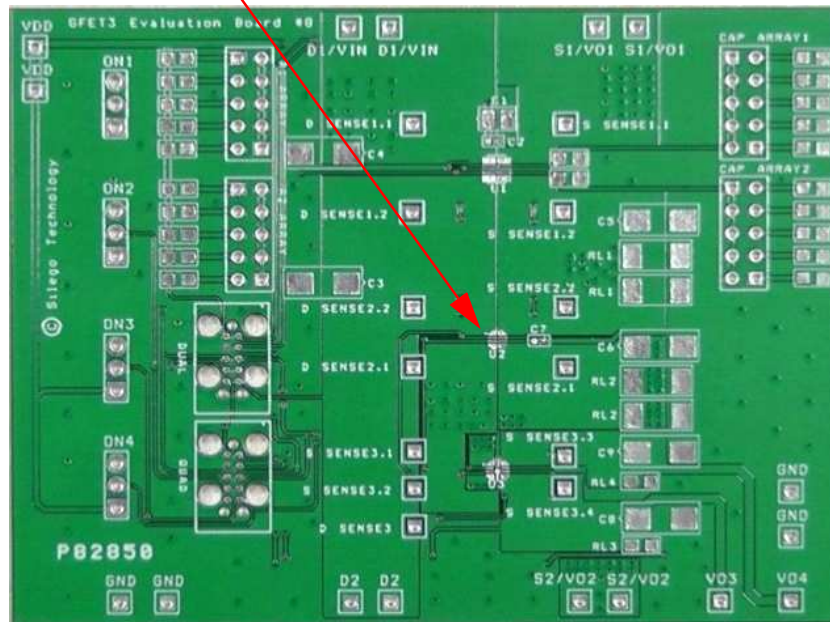

Figure 1. SLG59M1641V Evaluation Board
1. Since the VIN[1,2] and VOUT[1,2] pins dissipate most of the heat generated during high-load current operation, it is highly recommended to make power traces as short, direct, and wide as possible. A good practice is to make power traces with an absolute minimum widths of 15 mils (0.381 mm) per Ampere. A representative layout, shown in Figure 1, illustrates proper techniques for heat to transfer as efficiently as possible out of the device;
A GreenFET Evaluation Board for SLG59M1641V is designed according to the statements above and is illustrated on Figure 1. Please note that evaluation board has D_Sense and S_Sense pads. They cannot carry high currents and dedicated only for $R_{DS(on)}$ evaluation.